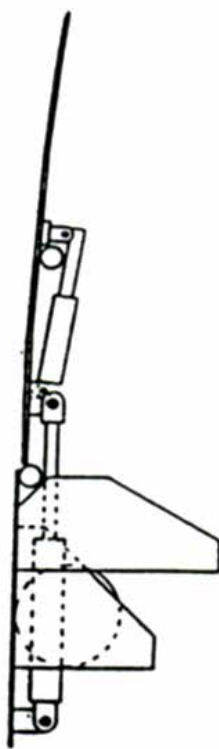

Figure 3
2. Depress and hold "RAISE" (A) button until leveler extends fully (Figure 3).